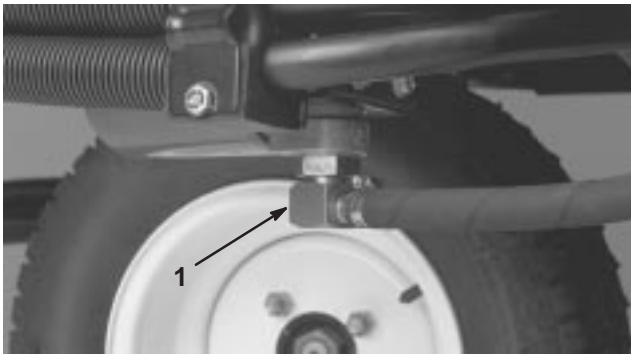
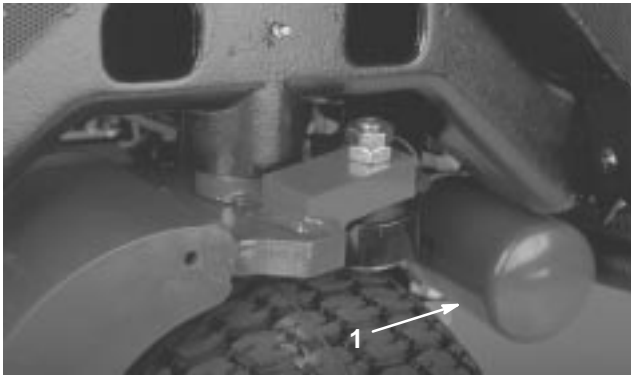

Figure 52
Figure 53
2. Disconnect the hydraulic line (Fig. 52) or remove the hydraulic filter (Fig. 53) and let the hydraulic fluid flow into a drain pan. Install the hydraulic line when hydraulic fluid stops draining.
3. Clean around the filter mounting area. Place a drain pan under the filter (Fig. 53) and remove the filter.